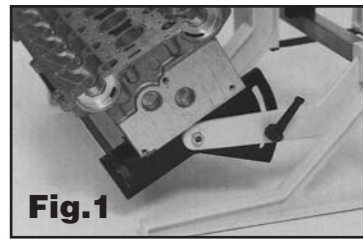

Fig.1
1. Place the cylinder head on the side supports protected by a plastic cover (fig. 1)
2. Manually adjust the side supports, tilting the cylinder head to the correct working angle, and lock them in position (fig. 1)
3. Use the dowel pins located at the brace plates, in the front square tube, to keep the cylinder head from sliding out of the working area, and keep it in correct alignment (fig. 1).